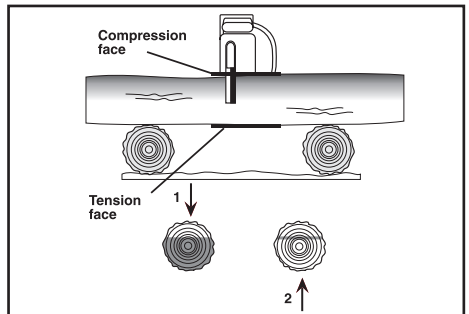

FIG.16
9.7 CROSS CUTTING/BUCKING - FIGS. 16 - 18